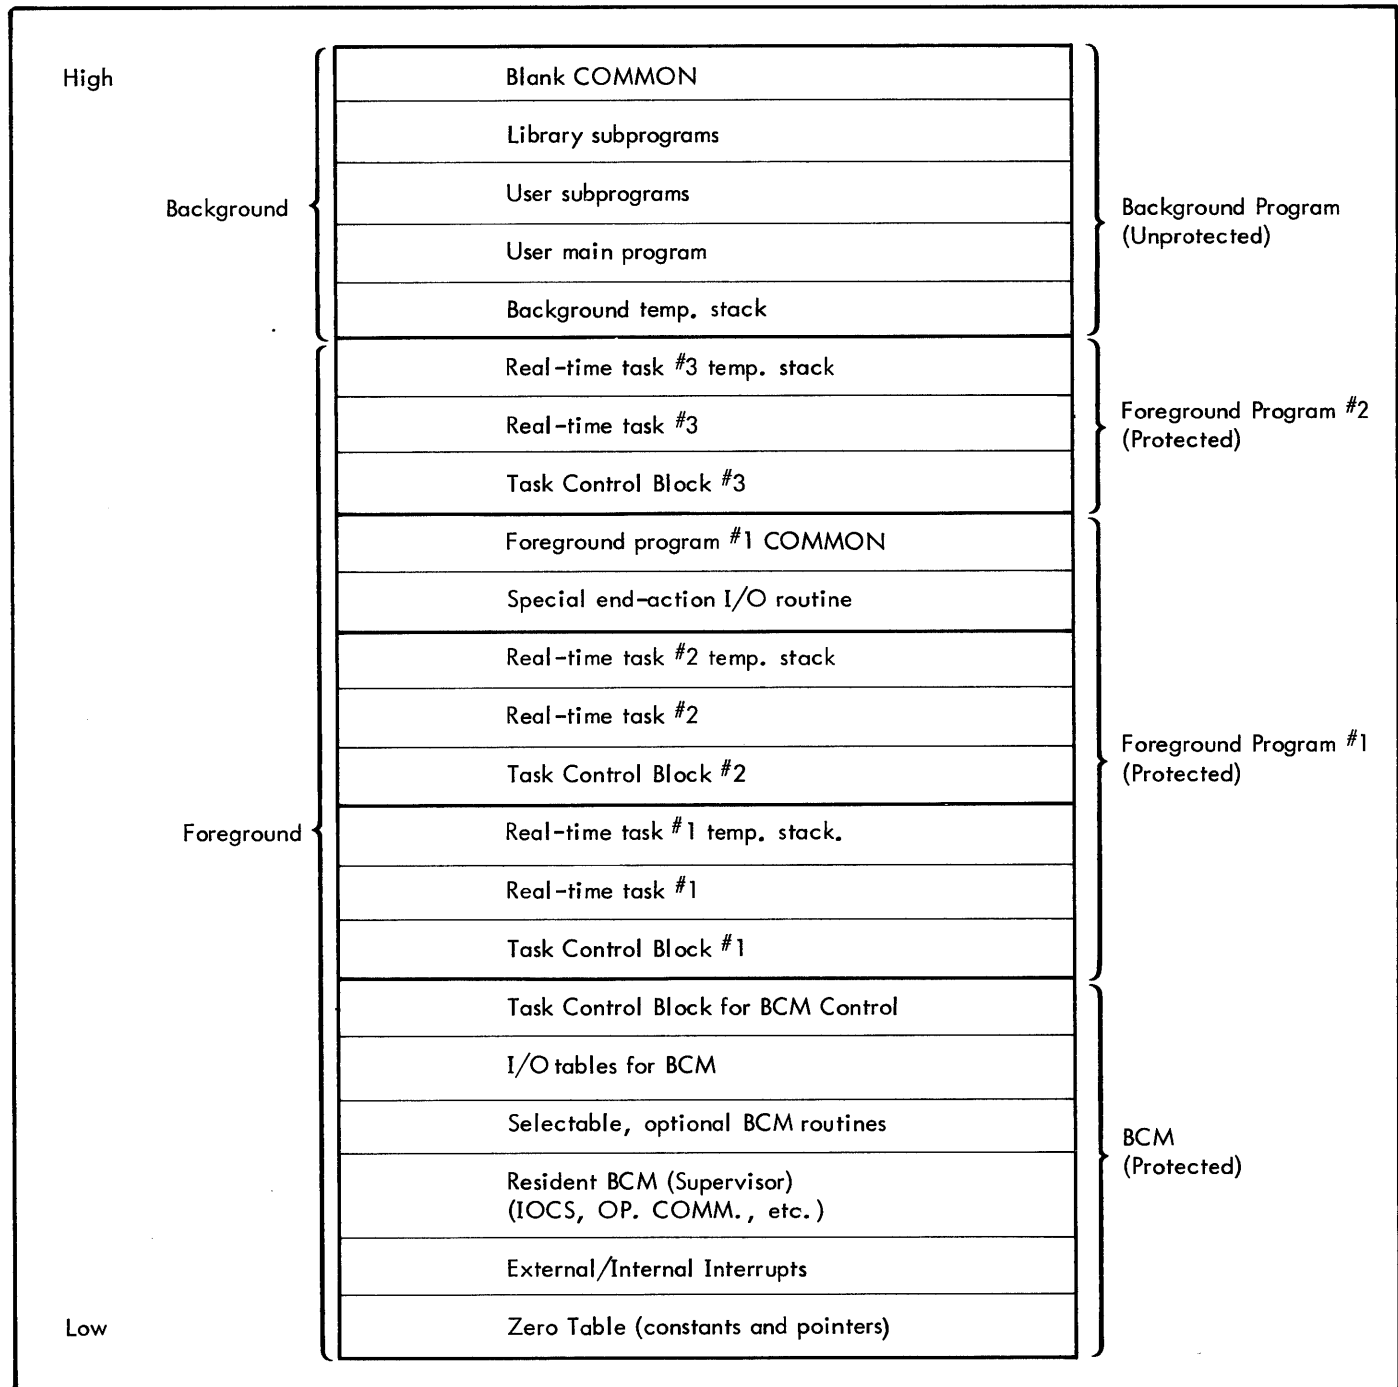

Figure 2. BCM Core Memory Allocation (Example)
6. All of memory, except the background space, is protected (on a multiple of 256 words). An example of core memory allocation is given in Figure 2.